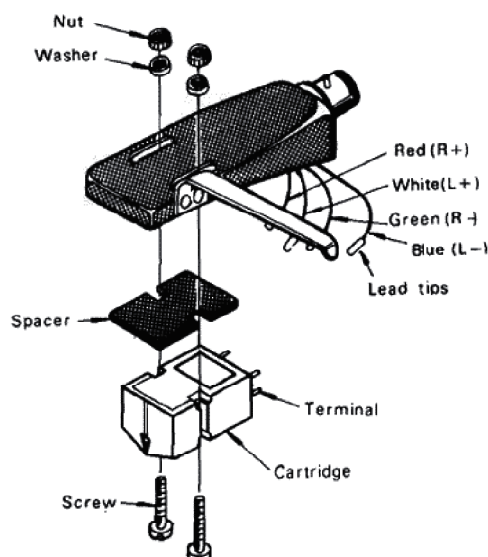

Fig. 4 Mounting the cartridge in the head shell
Fig. 4 shows how it is mounted. Almost any cartridge on the market (weighing 5 to 11 grams) can be mounted on this shell, but the way of fixing may vary with a particular cartridge, so follow carefully the mounting instructions accompanying your cartridge.
- 3) As shown in Fig. 4 the lead wires are colour-coded; red for right channel (hot), green for right ground, white for left channel (hot) and blue for left ground. Carry out connections correctly, paying enough attention to the connection of terminals on the cartridge side. A wrong connection will cause reversed-channels, abnormal sound image position or hum noise.